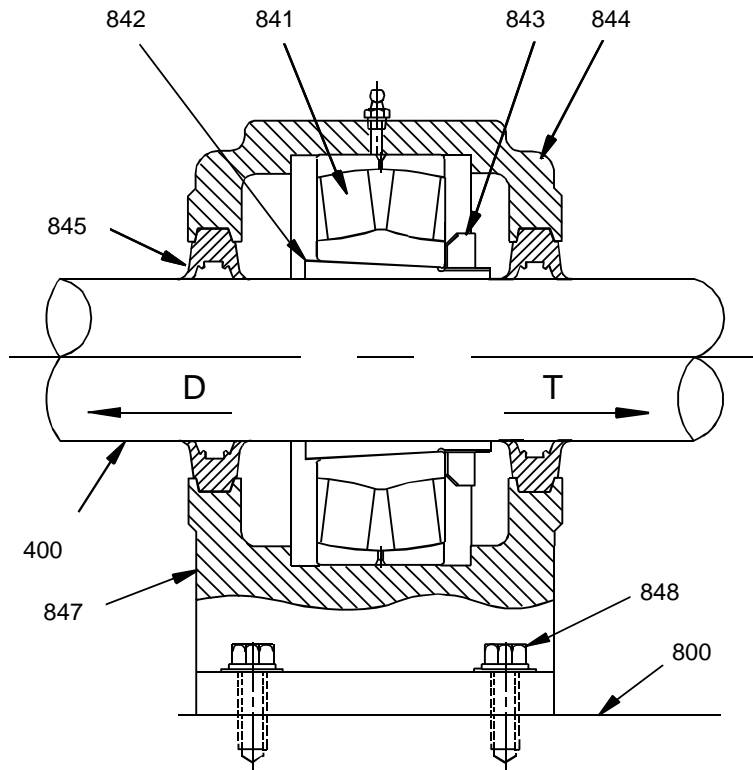
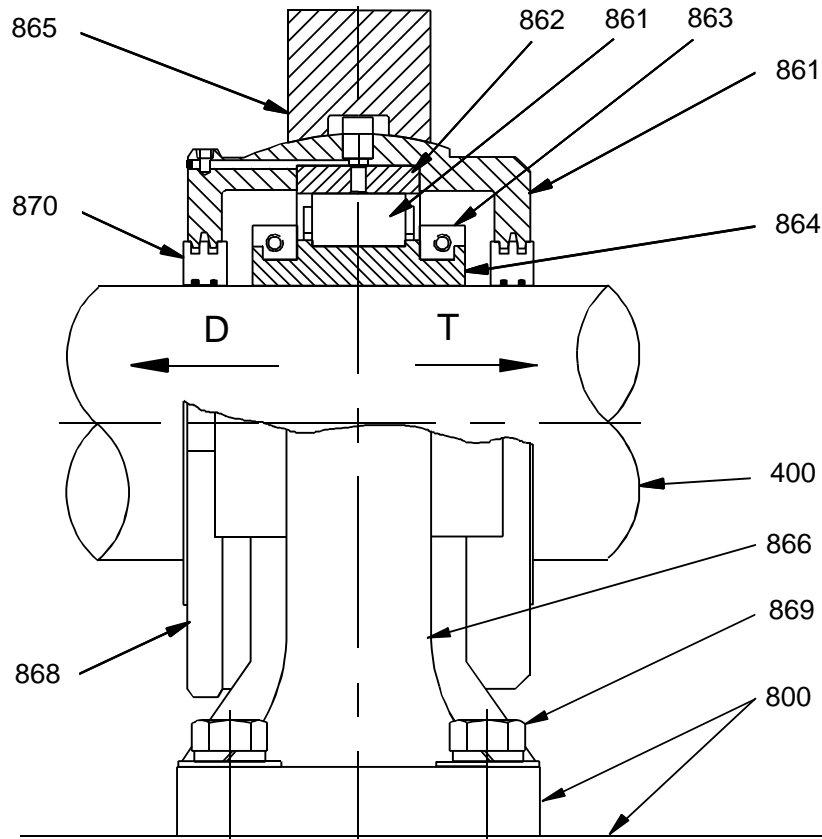

Figure 25: Inboard Bearing (non-split design)
Figure 26: Inboard Bearing (split design)
Refer to **Figure 25**, page 66.
4. Position the adapter sleeve (842) along with the bearing and all other components in the correct order on the shaft, with the threaded end toward the tank. Refer to the assembly drawing, **Figure 25**, page 66.
5. Place the bearing components and the seal rings into lower housing half (847) by bringing the lower housing half up from underneath and sliding it together onto the agitator mounting base.
Refer to **Figure 26**, page 67.
*Refer to **Figure 25, page 66** and **Figure 26, page 67**.*